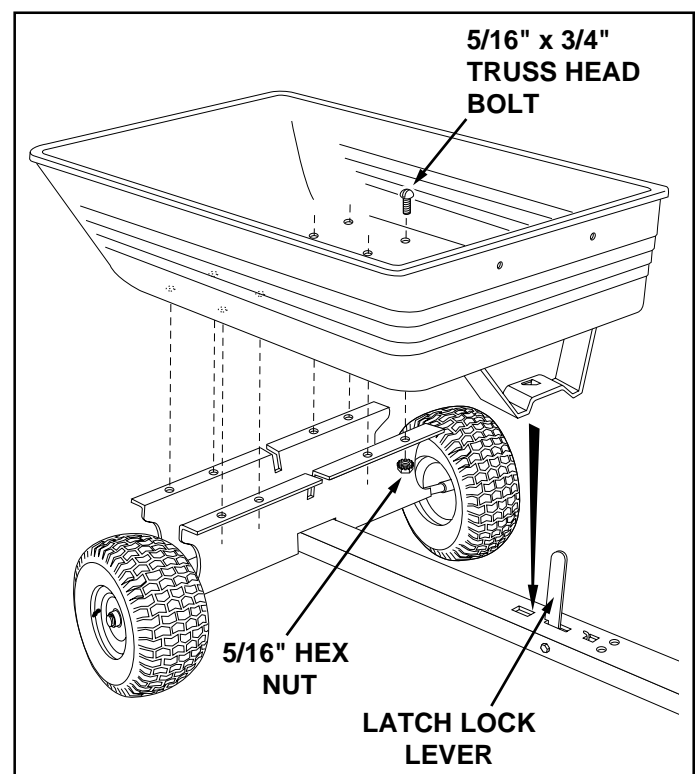

FIGURE 7
10. Place the poly tray down onto the wheel support, positioning it so that the latch stand bracket snaps under the latch lock lever. Fasten the tray to the wheel support using eight 5/16" x 3/4" truss head bolts and 5/16" hex nuts as shown in figure 7. **Tighten.**